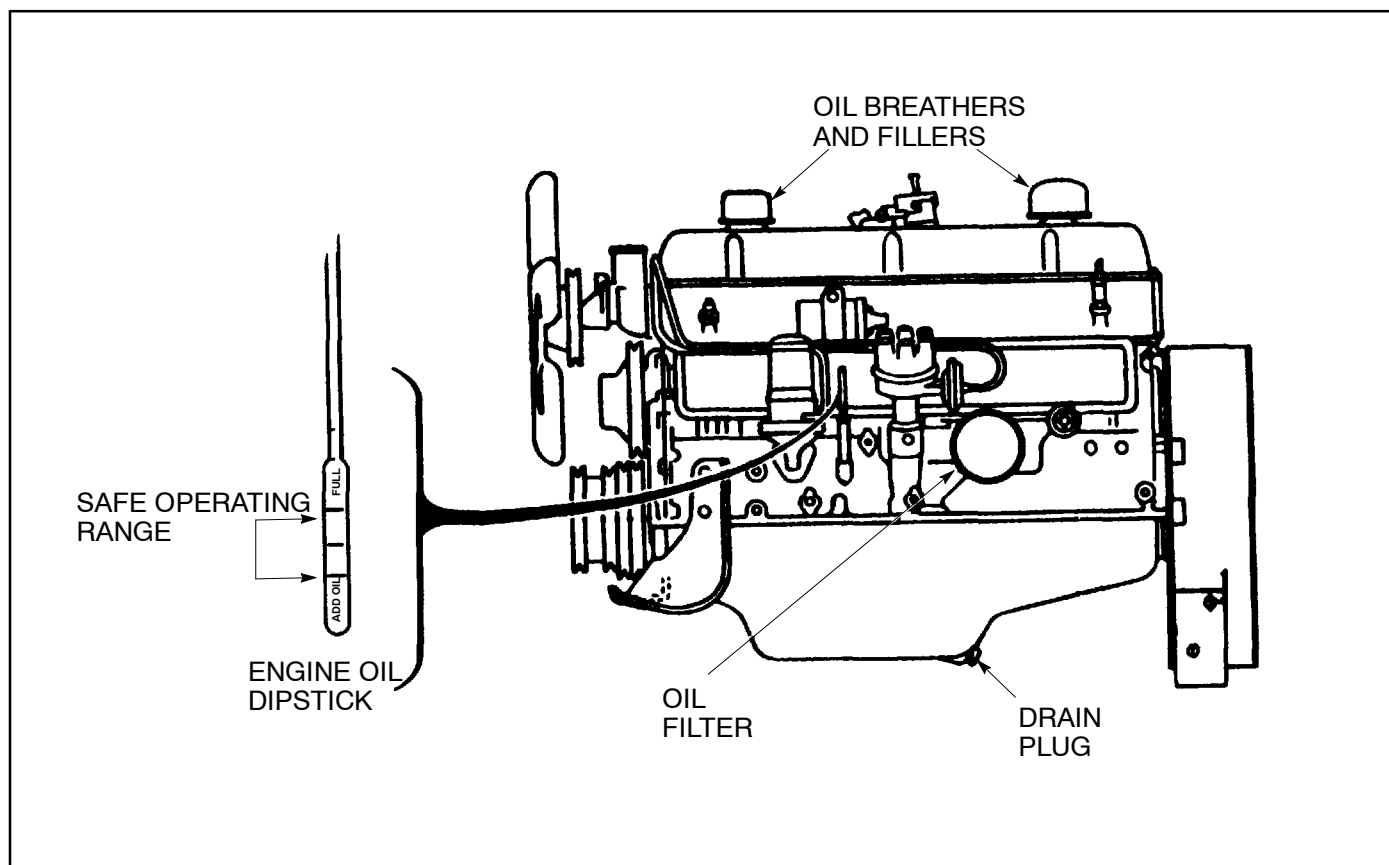

Figure 1. Lubricating System Components
1. Place a drip pan under the oil filter, and remove the oil filter (see Figure 1) using a band-type filter wrench. Discard the filter.